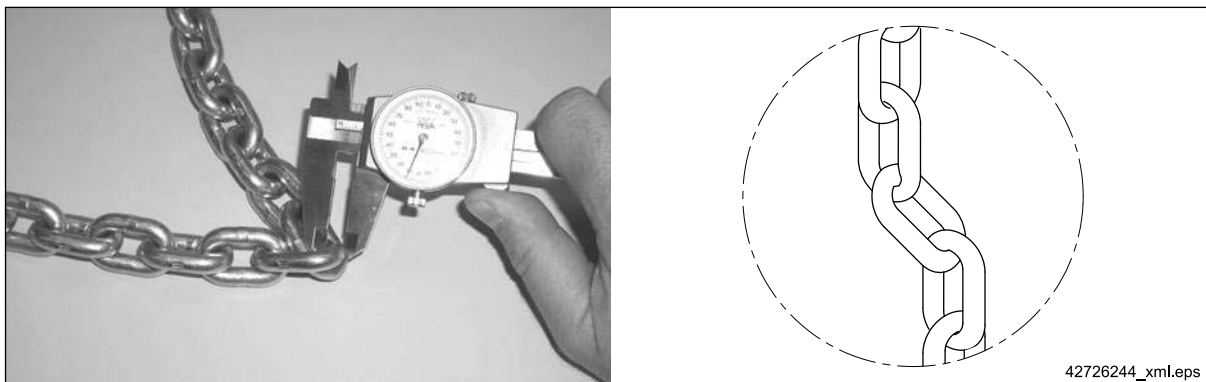

Fig. 44
- wear of a single chain link \Rightarrow Fig. 44, Page 75;